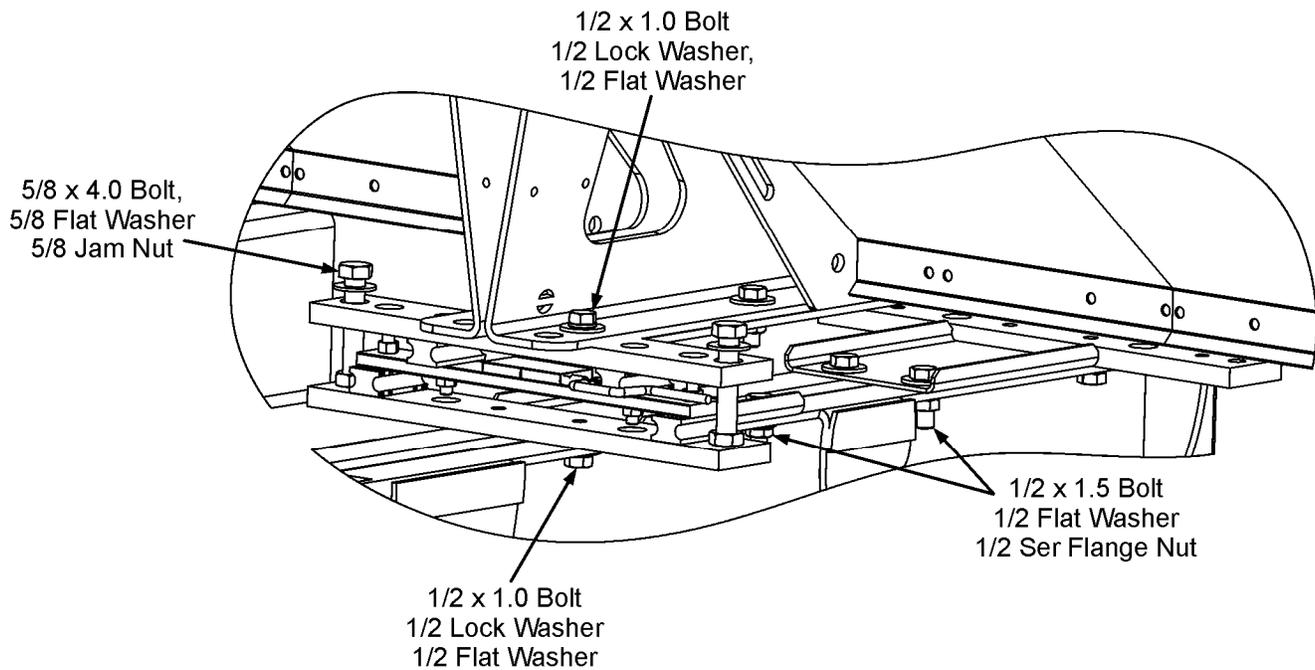

Figure 5
3. Slide the middle load cell assembly with the support weldments between the two hopper middle mounting flanges. Secure with mounting hardware listed in Figure 5. Keep the hardware loose. It may be necessary to loosen or remove the meter drive chain.